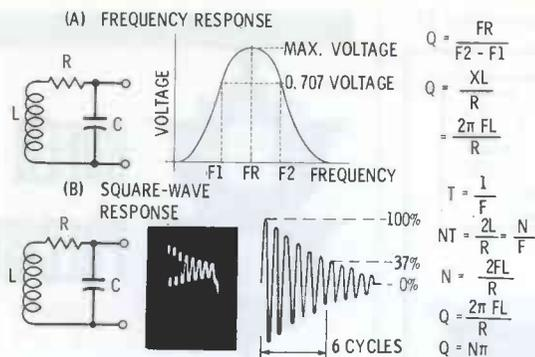

Fig. 6. Circuit Q can be measured with either method.
In addition, square-wave tests can be used to determine Q (Fig. 6B). The amplitude of the ringing waveform decreases in a manner identical to the decay of a simple RC or RL circuit. Now, however, 1/a is substituted for RC or L/R; a, the exponential damping function, is equal to R/2L. The ringing-waveform envelope will decrease from 100% to 37% of peak amplitude in 1/a, or 2L/R, sec. If N is the number of cycles between the 100% and 37% points and T equals the time interval for each cycle, then NT = 2L/R. Since T is the reciprocal of the waveform frequency, then N/f = 2L/R, and N = 2 fL/R. Since Q = 2 π fL/R, multiplying N by π gives Q: π N = 2 π fL/R = Q. Q of a circuit at its resonant frequency can be determined by the number of cycles (N) between the points at 100% and 37% of peak amplitude and multiplying the number by π. In Fig. 6, for example, Q = 6 π or approximately 18.85. Note, however, that this method gives the Q value only at resonance.